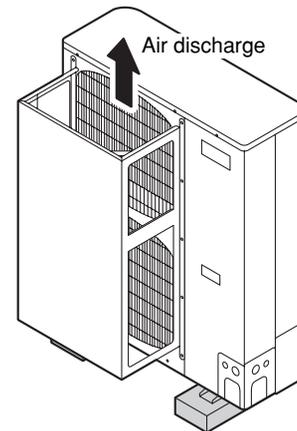

Fig. 2-5
- the air discharge outlet is facing a sidewalk and discharged hot air may annoy passers-by. Refer to Fig. 2-5.